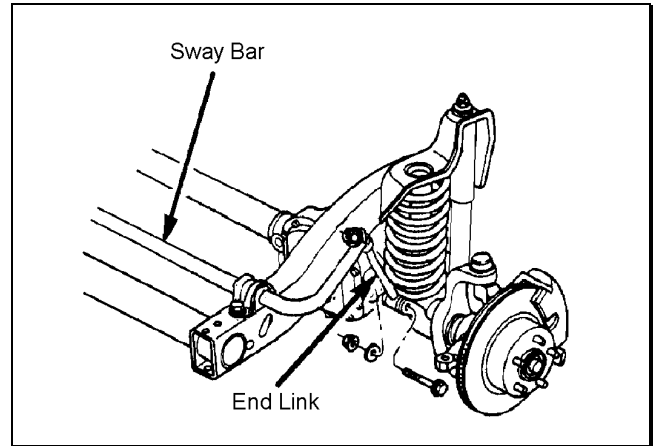

Figure 3
8)  Position a floor jack under the front axle for support. Remove both front sway bar end links. See Figure 3.